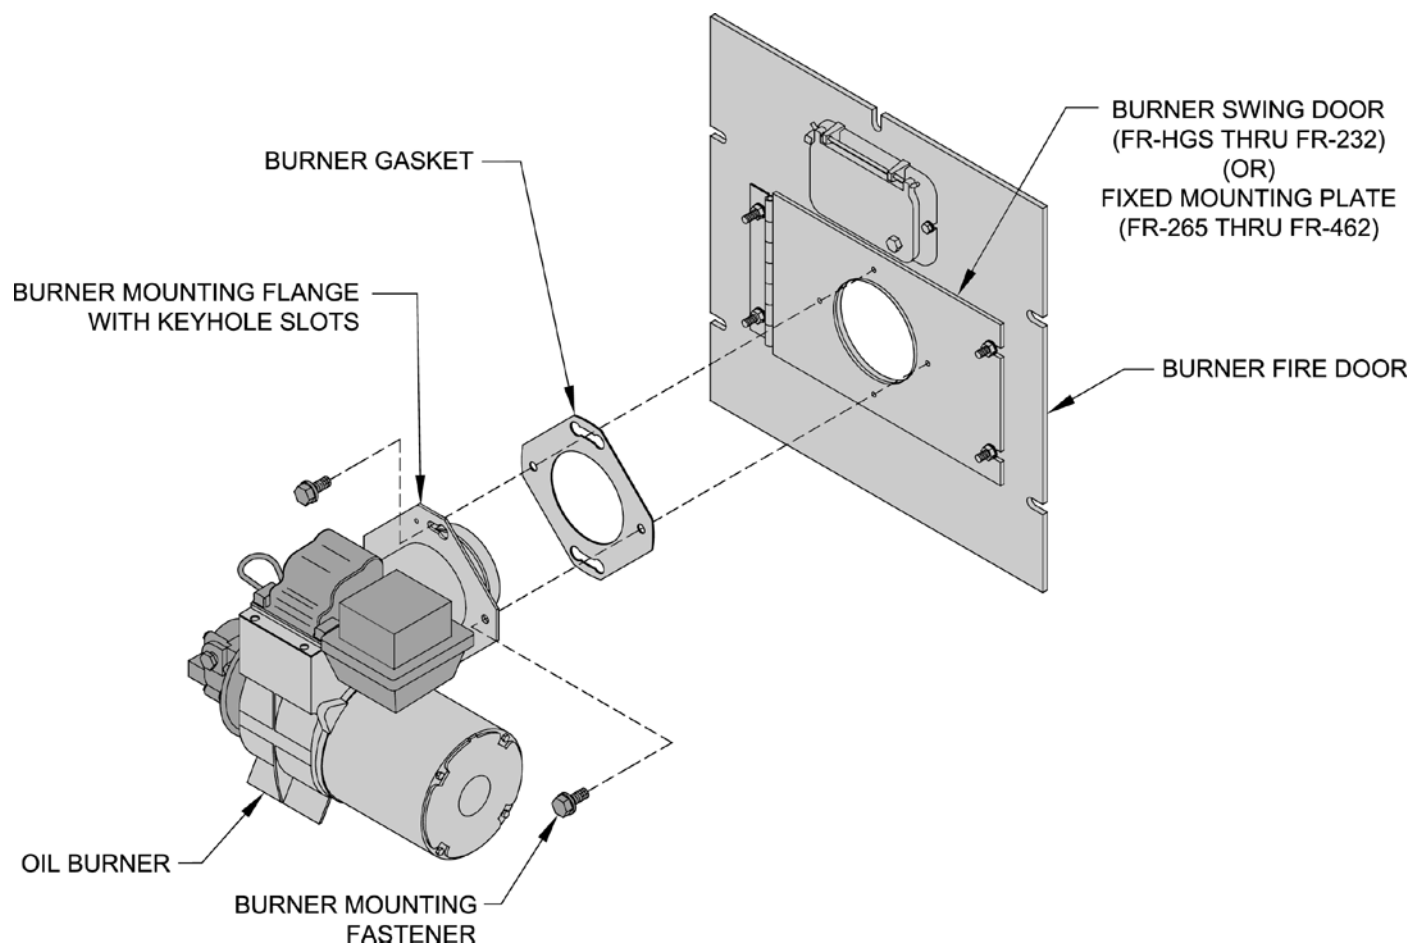

Figure 5: Burner Mounting
3. Mount burner to front fire door and wire according to instructions provided with the burner. Refer to Figure 5.